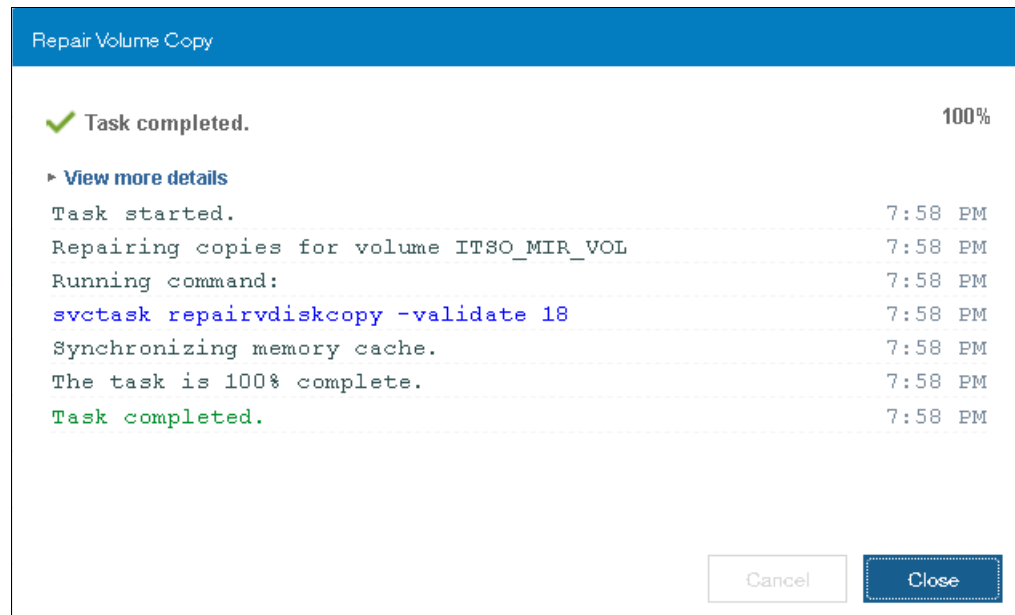

Figure 8-72 Volume copy validation output
5. Figure 8-72 shows the output when you select the volume copy **Generate Event of Differences** option.